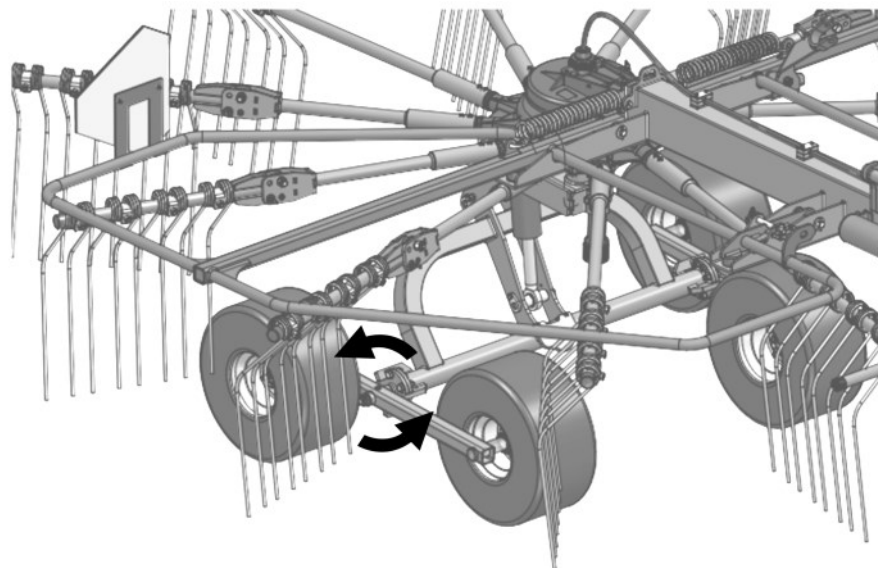

Fig. 10. Terrain ground contouring system
2. Adjust the rake fingers parallel to the ground, using the cylinder screw (Figure 10 item 4)